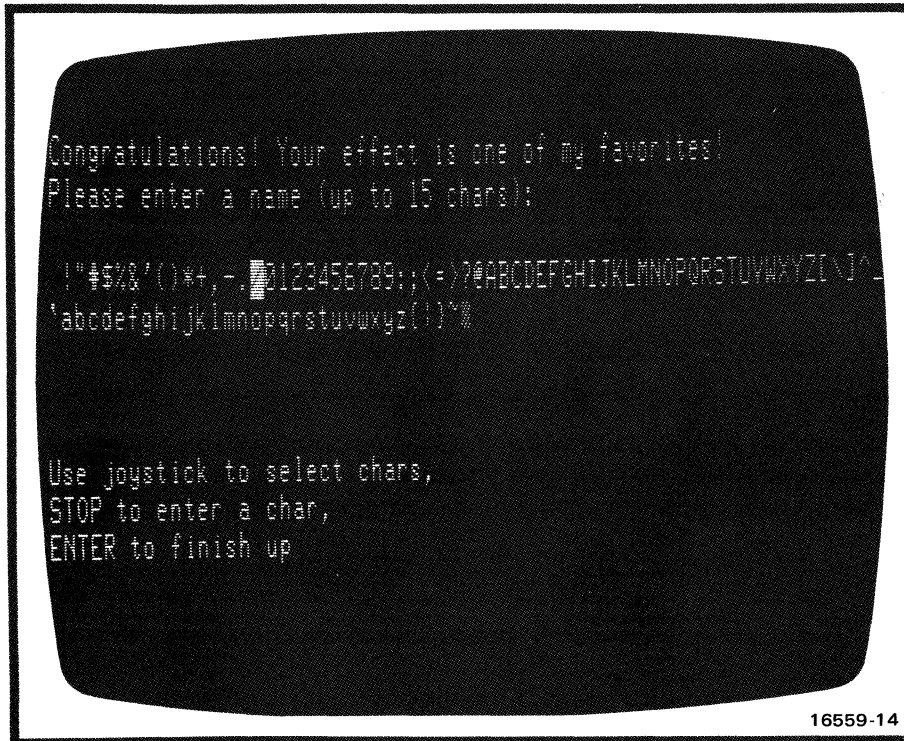

Figure 2-13. Enter Name Menu
- **enter name** brings up menu shown in Figure 2-13. Use this menu to assign names to disks before formatting or to effects before storing them on a disk.
- STEP 2 From program menu, press MORE and then **enter name** soft key. A menu with instructions and two rows of alphanumeric characters appears on the screen. Refer to Figure 2-13.